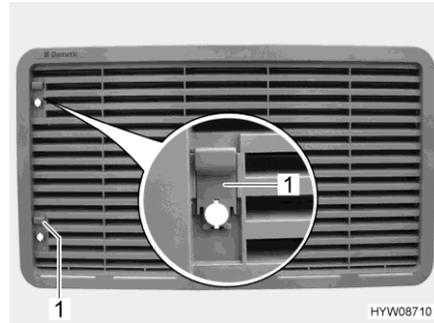

Fig. 196 Refrigerator ventilation grill
- Push sliding trap (Fig. 196,1) upward.